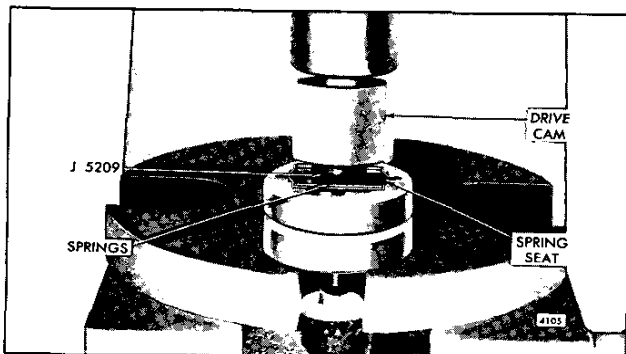

Fig. 22 - Inserting Blower Drive Cam in Springs
- b. Lubricate the springs with engine oil. Then place the spring packs, consisting of 15 leaves per pack, in between the spring seats as shown in Fig. 22.
- e. Place the blower drive cam, the protruding end of the cam down, over the end of the installer J 5209. Insert the tapered end of the installer in between the spring packs and under the ram of the press, then press the cam into place between the spring packs as shown in Fig. 22. Catch the installer by hand after it passes through the spring packs.